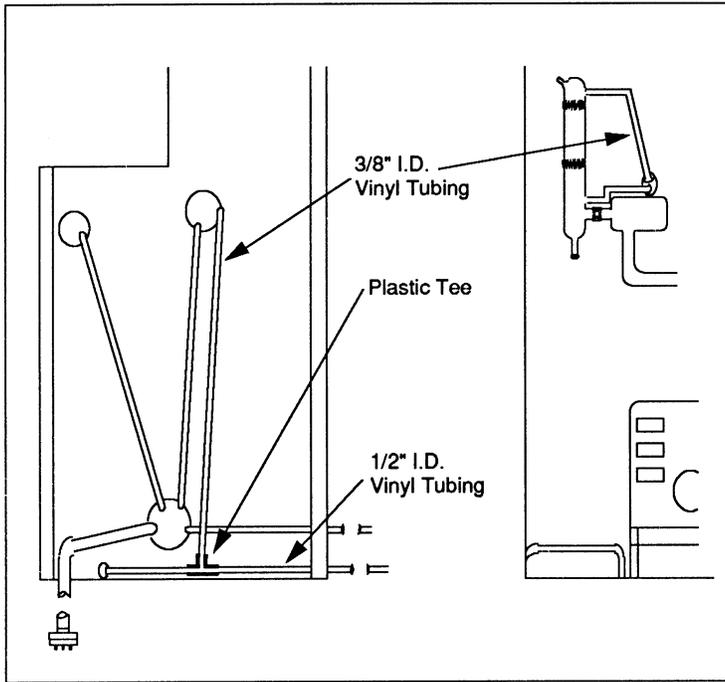

Figure 5
3. Install one end of the vinyl tubing to the top right tubulation on condenser B and route the other end through the cabinet and down the back as shown in Figure 5.